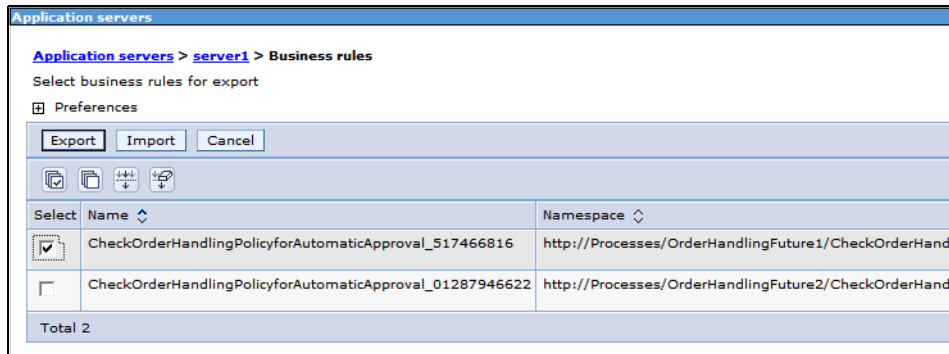

Figure 10-90 Exporting business rules: Selection
- ▶ Select one or more rules and click *Export* (Figure 10-90).